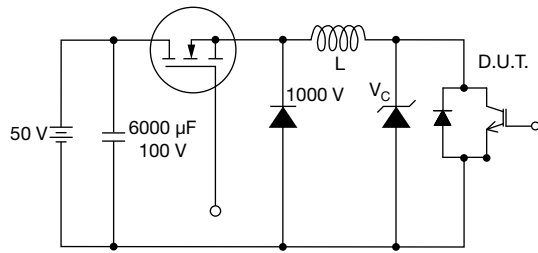

Fig. 19 - Clamped Inductive Load Test Circuit
(2)  $V_{CC} = 80\% (V_{CES})$ ,  $V_{GE} = 20\text{ V}$ ,  $L = 10\text{ }\mu\text{H}$ ,  $R_G = 23\text{ }\Omega$  (see fig. 19)